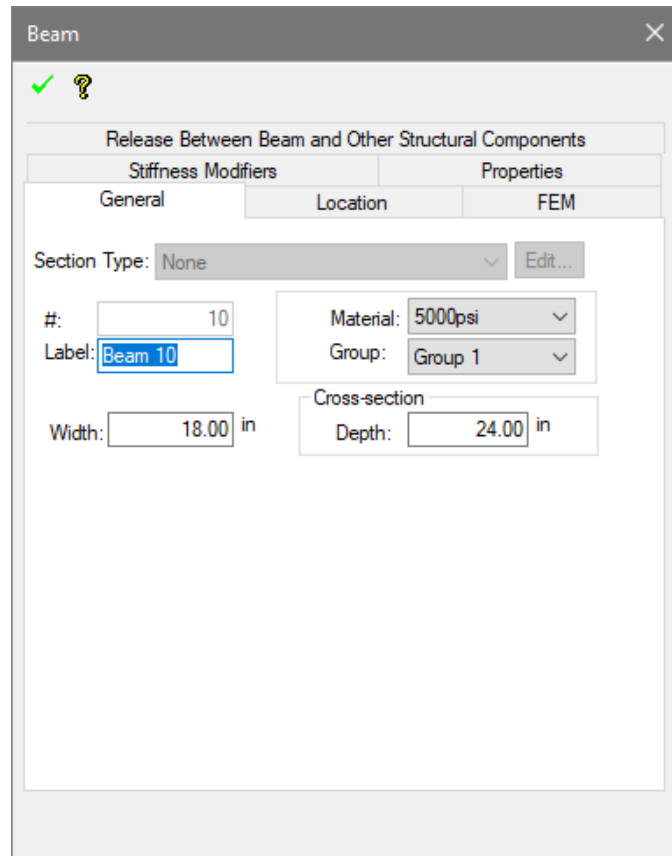

Figure 8-4
- Click OK to make the modification and close the window. If we bring up the properties now, on any beam in the model, we should see the material property set to 5000psi as shown in **FIGURE 8-4**.